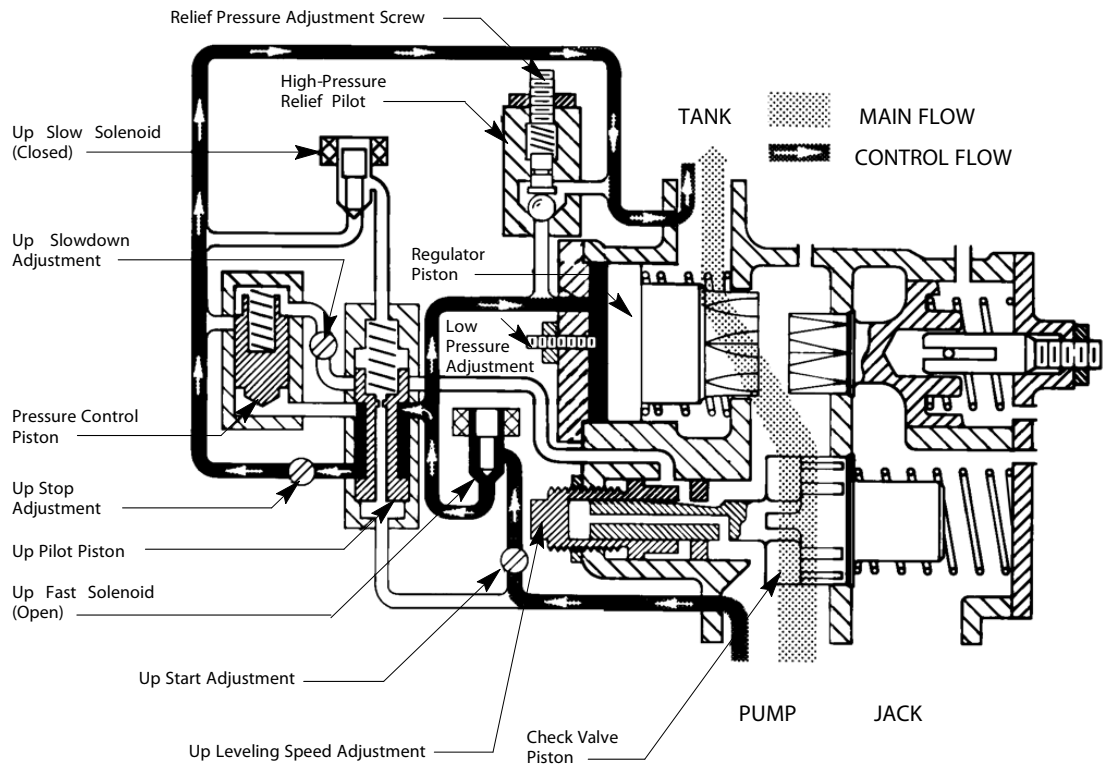
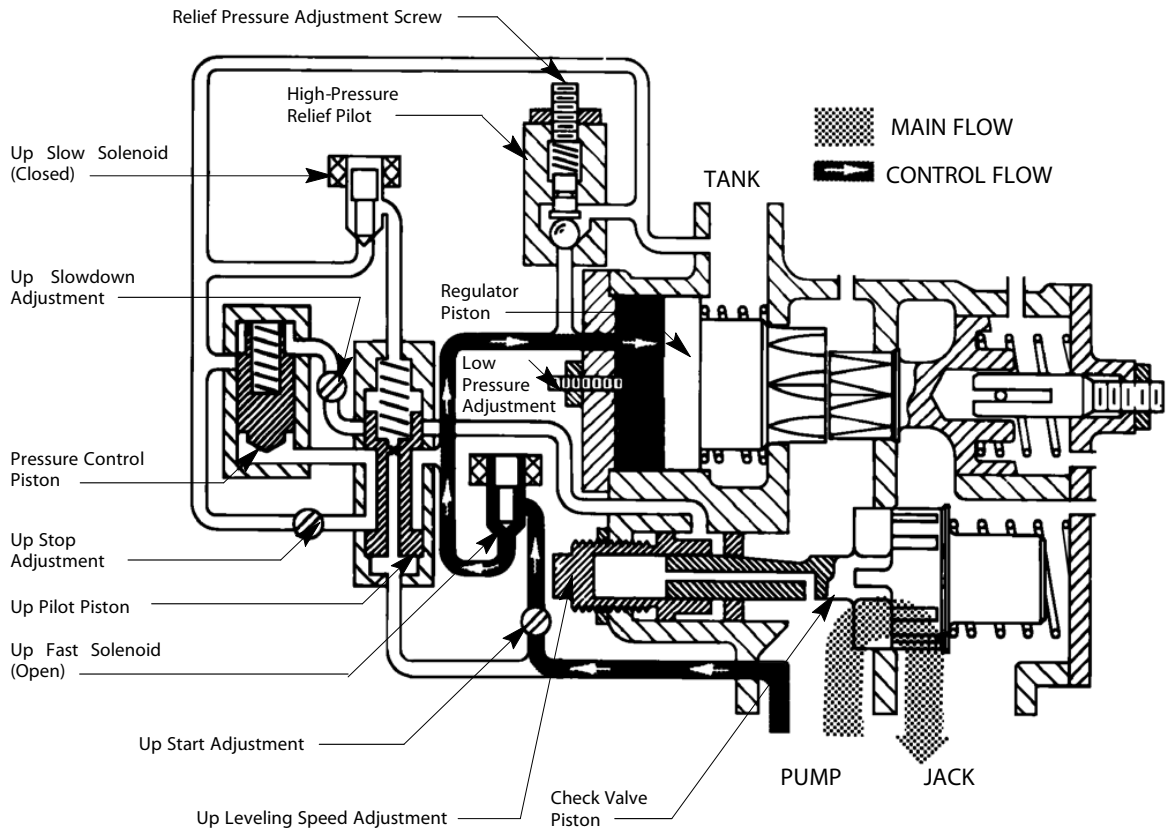

Figure 6 - Up Start Diagram
Figure 7 - Full Speed Diagram
1. To start the car, the pump starts and the up fast solenoid energizes. See Figure 6 on page 12 - 47 and Figure 7 on page 12 - 48.